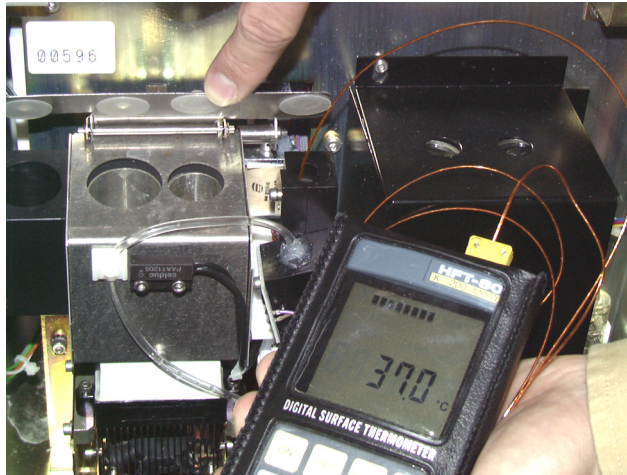

Fig.3: CRP chamber temperature
- ◆ Plunge thermometer probe deeply into CRP chamber (See "Fig.3: CRP chamber temperature, page 3").